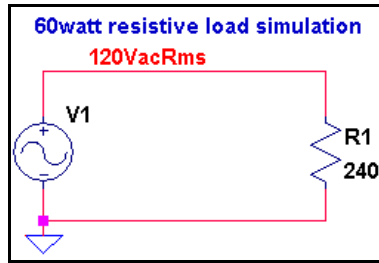

Figure 3 AC Voltage source feeding resistive 60watt incandescent light bulb
Formula to plot sine-wave shown in Figure 3 below: $v(t) = V_{PEAK} * \sin(2\pi ft)$ (5)